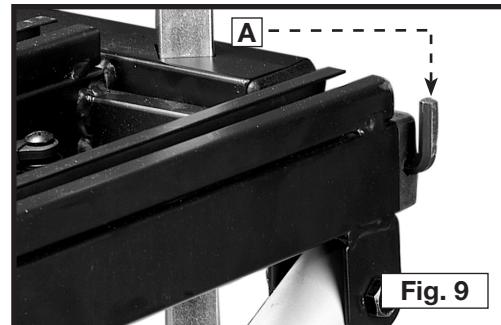

Fig. 9
2. Align the holes and install two M8 x 15 mm buttonhead screws with curved washers (C).
**NOTE:** The supplied hex wrench comes in the wrench storage, located in the corner of the stand, directly above one of the wheels (See Fig. 9).
The supplied hex wrench (A) Fig. 9 comes in the wrench storage, located in the corner of the stand, directly above one of the wheels